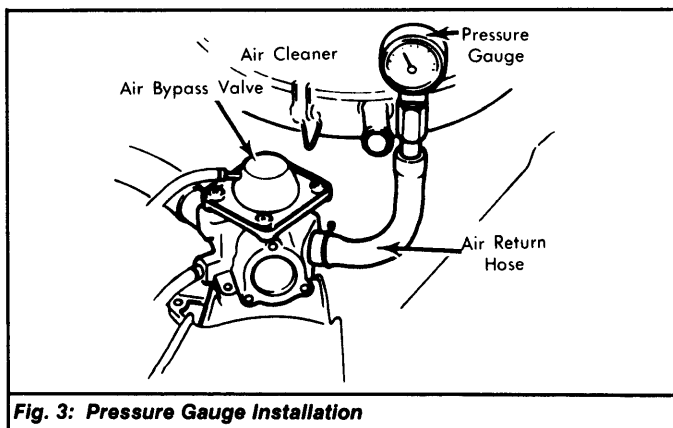

Fig. 3: Pressure Gauge Installation
- 1) Disconnect air pump-to-check valve hose at valve and plug the hose. Disconnect return hose from air cleaner and install a pressure gauge in hose. See Fig. 3.